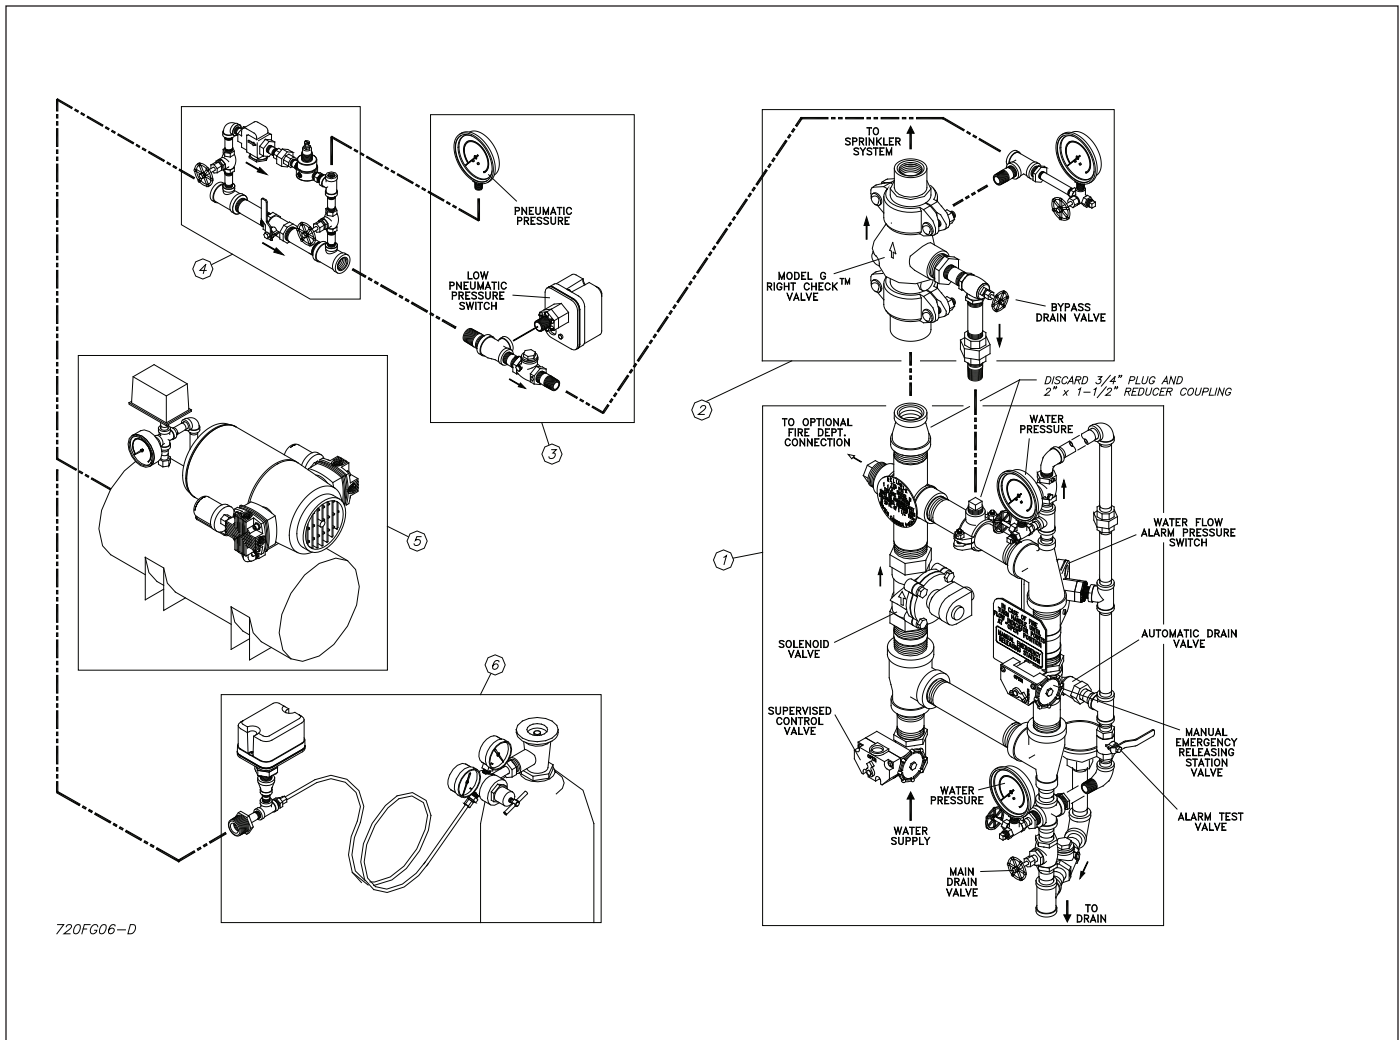

Figure 6 3/4 Double Interlock Preaction, Component Identification
The recommended sequence of installation is as follows (refer to Figure 6):
Install the pressure gauge included with this trim kit into the Model A-2 Pressure Maintenance Device after removing the 1/4" NPT (R1/4) plug, as illustrated in Figure 6.
4. Install the Pre-assembled Model A-2 Pressure Maintenance Device (P/N 6304000100) with pressure gauge in place, onto the Switch/Gauge Trim Kit as illustrated in Figure 6. Adjust the output pressure to approximately 10 psi (0,7 bar) according to the instructions in Bulletin 251, included.
5. When a dedicated pneumatic pressure supply is required, a small tank mounted air compressor [such as the hp, 2 gal. (7.6 liters) Gast Model 1LAA-11T-M100X illustrated in Figure 6] can be used to input the Model A-2 Device.
If moisture and possible ice blockage is of concern, a dry nitrogen gas cylinder with the Nitrogen Regulating Device described in Bulletin 253, and illustrated in Figure 6, can be used to supply the Model A-2 Device.
Refer to Figure 6.